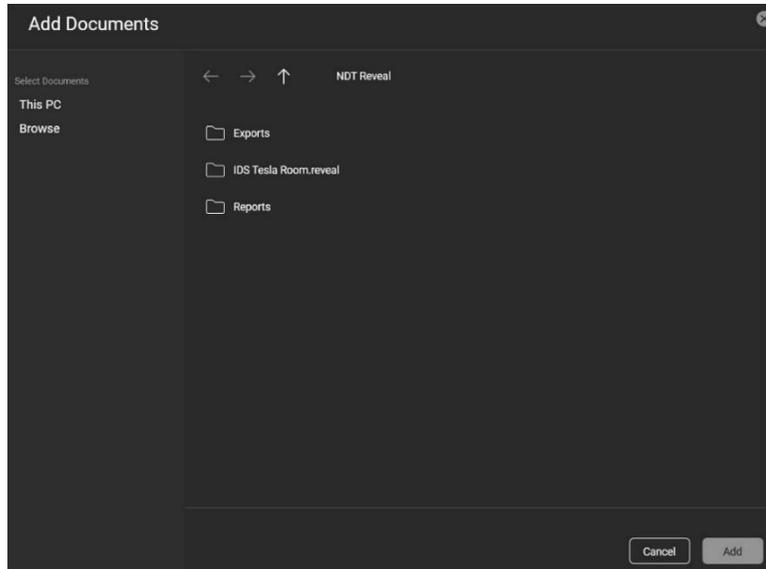

Fig. 26 Browsing through folders to Add Documents
4. Browse through the folders location to select the Images you want to add, and press “Add” (Fig. 26).